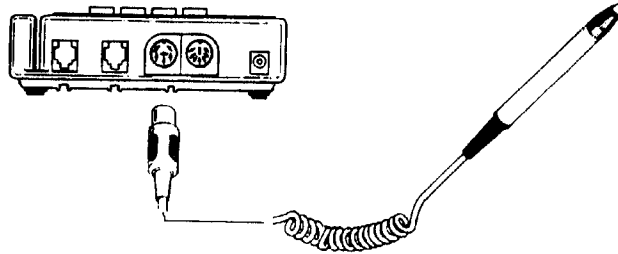

Figure 2-7. Bar Code Wand Connection
1. Connect the plug on the bar code wand to the PIN Pad/Bar Code port on the rear of the TRANZ 330 terminal, as shown in Figure 2-7.